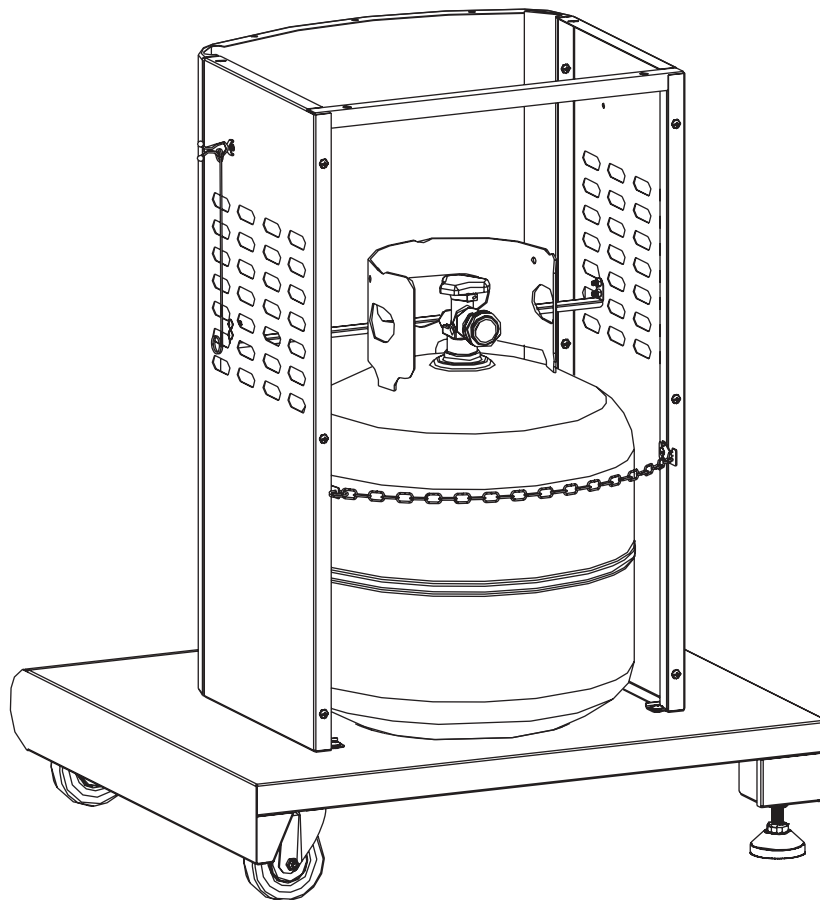

Fig. 9
4. Tank must be oriented to provide proper vapor withdrawal, as shown in **Fig. 9**.
8. Other tanks may be acceptable for use with your grill provided they are compatible with the tank retention means in **Fig. 9**.
Set the LP tank into the hole in the bottom shelf. Make sure the threaded connection at the top points toward the rear of the grill as shown in **Fig. 9**. Secure the tank in place with the tank hold chain as shown in **Fig. 9**.